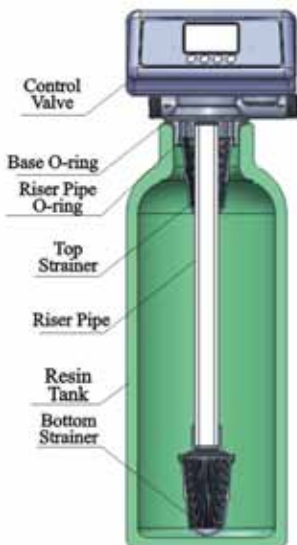

Figure 1-1
- ① The filter should be located closely to drain.
- ② Ensure the unit is installed in enough space for operating and maintenance.
- ③ The unit should be kept away the heater, and exposed outdoor. Sunshine or rain will cause the system damage.
- ④ Please avoid to install the system in one Acid/Alkaline, Magnetic or strong vibration circumstance, because above factors will cause the system disorder.
- ⑤ Do not install the filter, drain pipeline in circumstance which temperature may drop below 5°C, or above 50°C.
- ⑥ One place is recommended to install the system which causes the minimum loss in case of water leaking.
① Install control valve
a. As the Figure 1-1 shows, select the relevant riser pipe, glue the riser pipe to the bottom strainer and put it into the mineral tank, cut off the exceeding tube out of tank top opening. Plug the riser tube in case of mineral entering.